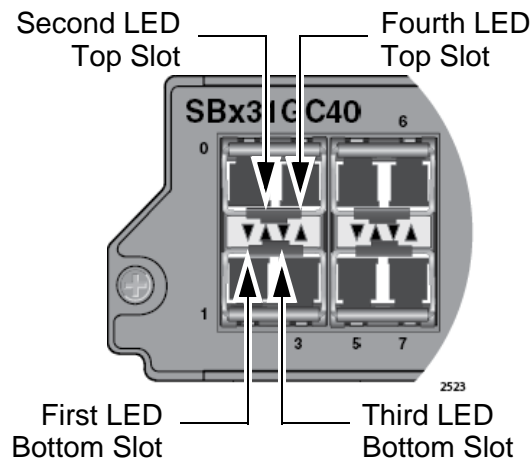

Figure 24. LEDs for the AT-SBx31GC40 Line Card
**LEDs** The AT-SBx31GC40 Line Card has two LEDs for each SFP slot. The LEDs, which display link and activity information, are located between the slots, in sets of four. The first and third LEDs of each set are for the bottom transceiver slot and the second and fourth LEDs are for the top transceiver slot, as shown in Figure 24.